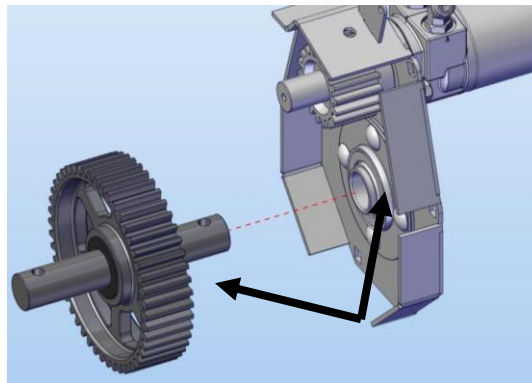

Figure 183
9. Install the output shaft in the gearcase. Figure 183